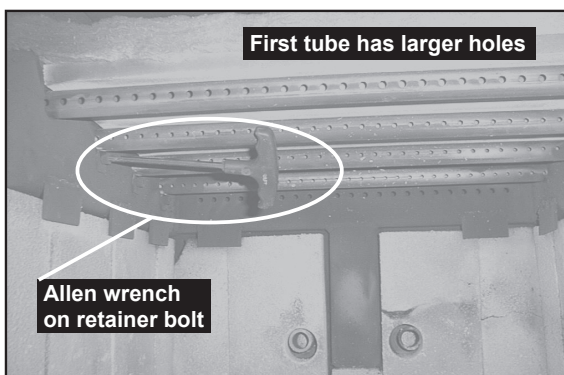

FIGURE 24A - Allen wrench on retainer bolt.
2. With a 3/16" allen wrench, remove the 2 front secondary combustion tube retainer bolts on the secondary air channel under the end of the front tubes. **See Figure 24A.** NOTE: Soak the bolts with penetrating oil for at least 15 minutes before trying to remove them.